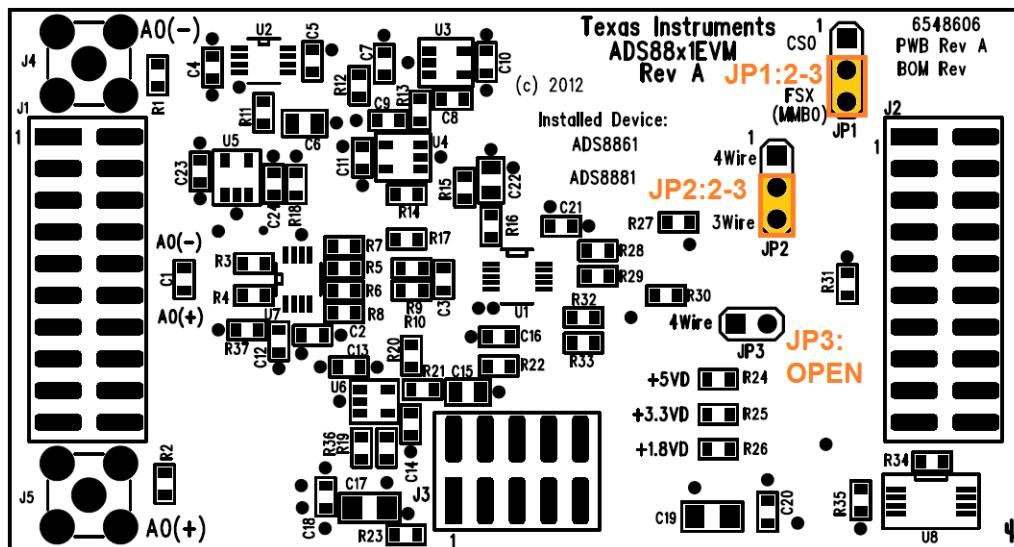

Figure 8. ADS8861EVM Jumper Configuration
3. Set JP1:2-3, JP2:2-3, and JP3:open on the ADS8861EVM, as shown in Figure 8.